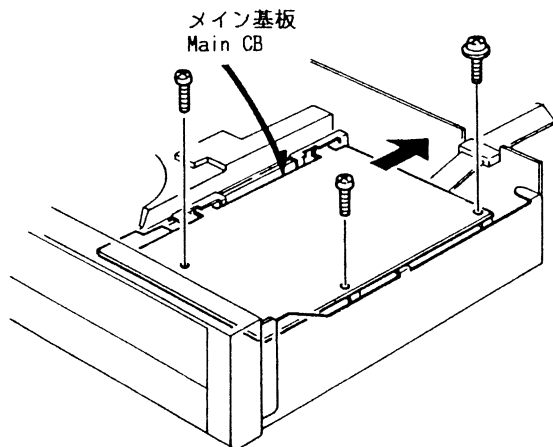

Fig. 1
- 1) Remove 3 screws and take out the main circuit board in the direction of the arrow. (See Fig. 1)